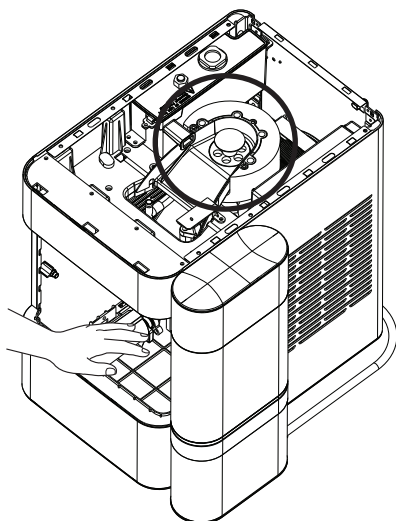

Figure 11
3. Clean the sensors with vinegar and wipe clean with water. After draining the vinegar, run three rinse cycles, using fresh water for each rinse. See figures 11, 12, and 13 to reference location of the sensors.